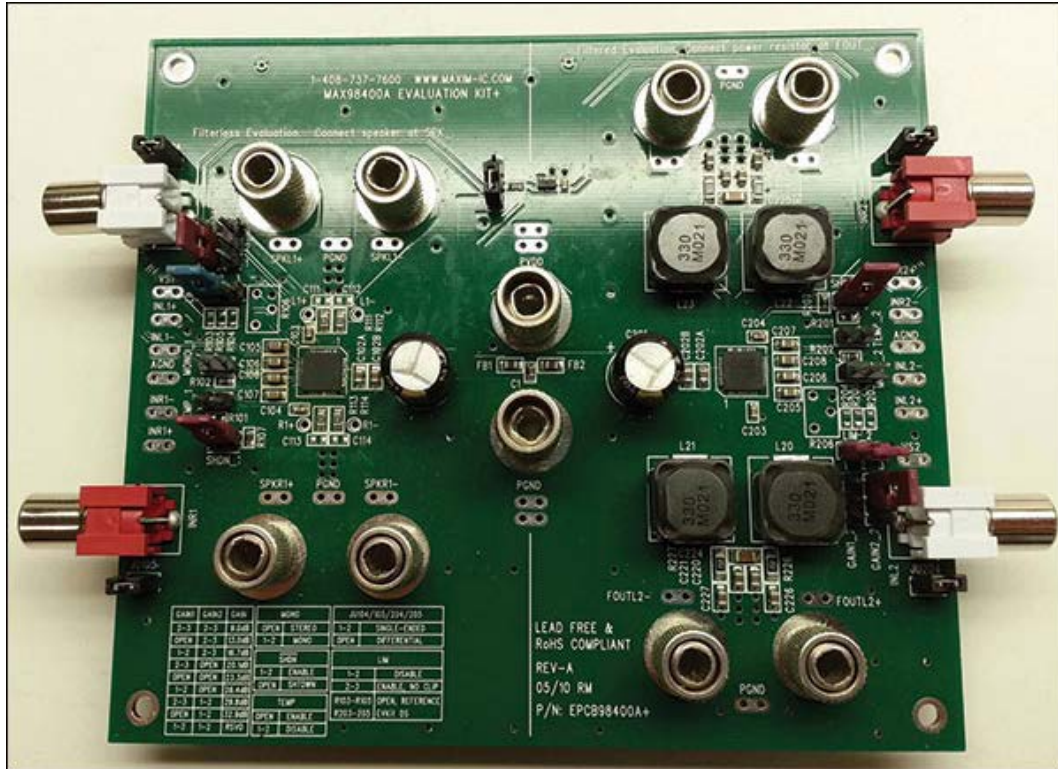

Figure 1. The MAX98400A started the whole project. The EV kit board has two 40W amps on it, and I was ready to build something that could be loud.
As an applications engineer, I have access to the full catalog of Maxim Integrated parts and evaluation (EV) kits. I picked the highest wattage Class D amp, the MAX98400A. This part was appealing because it could be configured to work as a stereo amp with 20W per channel, or with minimal tweaking, it could be configured to work as a mono 40W amp. I really liked that the MAX98400AEVKIT (**Figure 1**) had two amps on it with shared power rails.